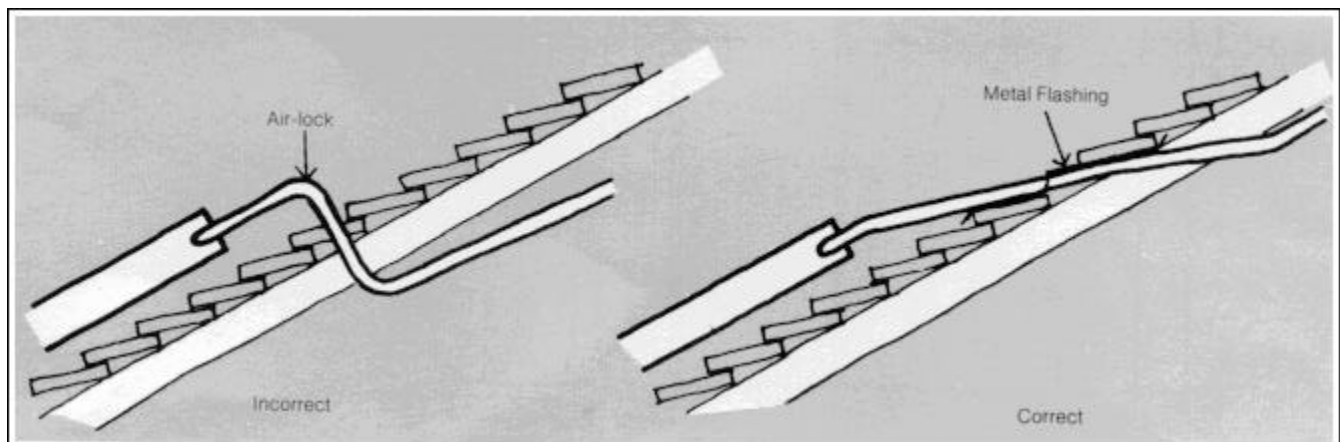

Fig. 4.38 AIR-LOCK FORMATION
- 4.) Be careful that the flow and return pipes have a continuous slope. Any dip in the piping (Fig.4.38) can lead to the formation of an airlock (or vapour lock) which may stop any further flow.